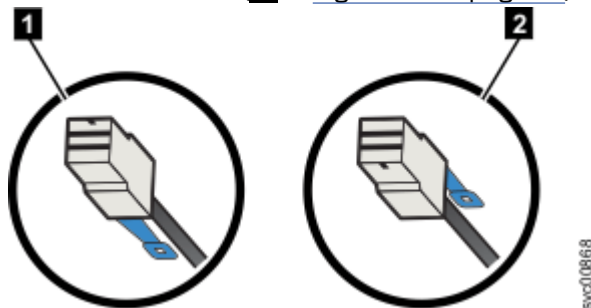

Figure 61. SAS cable connector orientation
When you insert SAS cables, make sure the connector (Figure 61 on page 94) is oriented correctly.
- For FlashSystem control enclosure node canisters and 2U expansion enclosures, the blue pull tab must be below the cable (**1** in Figure 61 on page 94).
- For 5U expansion enclosure canisters, the blue pull tab must be above the connector (**2** in Figure 61 on page 94).